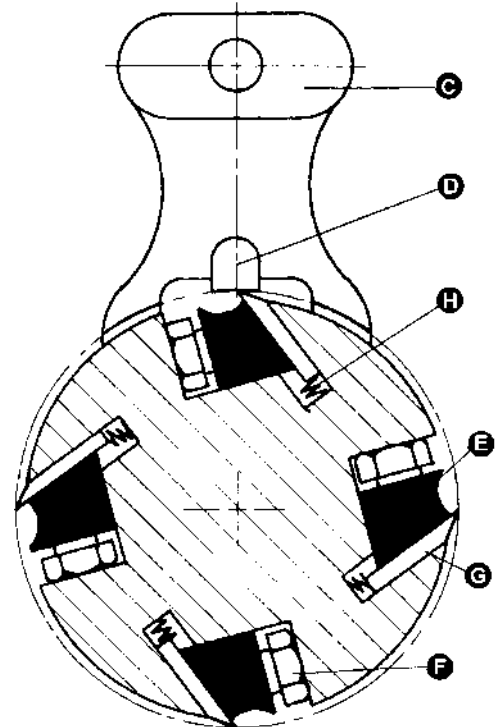

FIGURE 16
3. To check and adjust knives, use the provided knife gauge (C) and check all four knives, Figure 16. Knives should just contact the bottom of the center protrusion (D) of the knife gauge.
4. If an adjustment to one or more of the knives is necessary, slightly loosen the knife gib (E), Figure 16, by turning the six locking screws
5. With the gauge in place over a knife (G), continue to loosen the locking screws (F) until the lifter springs (H), begin raising the knife. When knife comes into contact with the center protrusion (D) of the gauge, snug up the gib by lightly backing out the six locking screws (F) against the slot. **NOTE:** At this time, only tighten the knife into the slot just enough to hold knife in position.
7. After all four knives are set with screws just snug, back out and tighten the six locking screws (F), Figures 16 & 17, against the slot starting with the end screws first, then the center screws, until the knife is securely held in the cutterhead. Tighten remaining three knives in the same manner.
3. To remove knife, loosen the gib (E), Figure 16, by turning the six locking screws (F) into the gib. Remove gib (E), knife (G), and springs (H). **NOTE:** The inner two springs will pop out when the knife and gib are removed.
6. Inspect the cutting edge of the knives for nicks or wire edge. Hone the knives slightly using a stone or if the knives are to be sharpened, maintain a cutting angle of 35 degrees as shown in Figure 16.
7. Insert springs (H), knives (G) and gib (E) into slot of cutterhead. Back out locking screws (F) just enough to hold the knife in the cutterhead.
8. Place knife gauge (C) over knife as shown in Figure 16.
9. While holding down on the knife gauge, loosen all six locking screws (F) by turning them into the gib (E) until cutting edge of knife comes into contact with the protrusion (D) of the gauge. Snug up the gib by slightly backing out the six locking screws against the slot.